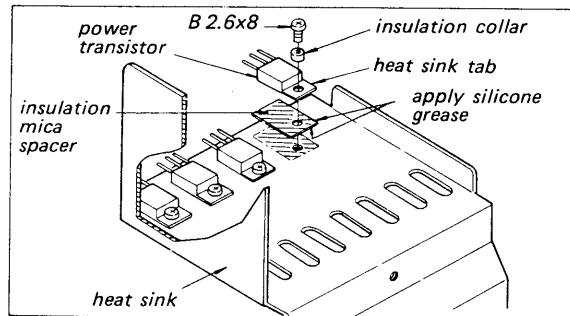

Fig. 2-9. Power transistor replacement
3. When replacing the power transistor, apply a coating of a heat-transferring grease to both sides of insulation mica spacer to the indicated portion as shown in Fig. 2-9. Any excess grease squeezed out when the mounting bolts are tightened should be wiped off with a clean cloth. This prevents it from accumulating conductive dust particles that might eventually cause a short.